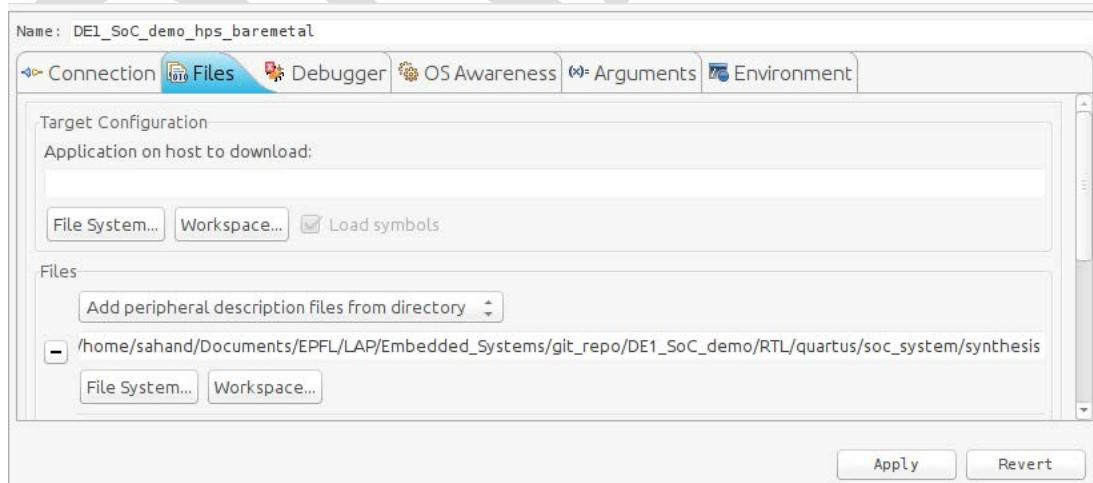

Figure 8-30. Debug Configuration "Files" Tab
- In 8.3.3.2, we configured our HPS to use some FPGA peripherals. We can instruct the debugger about this so it can show more detailed information when debugging. To do this, set the combobox to "Add peripheral description files from directory" and set it to the "DE1_SoC_demo/RTL/quartus/soc_system/synthesis" directory, as shown in Figure 8-30. This directory contains a file called "soc_system_hps_0.hps.svd" which has information on all of the HPS' peripherals which are in the FPGA fabric.